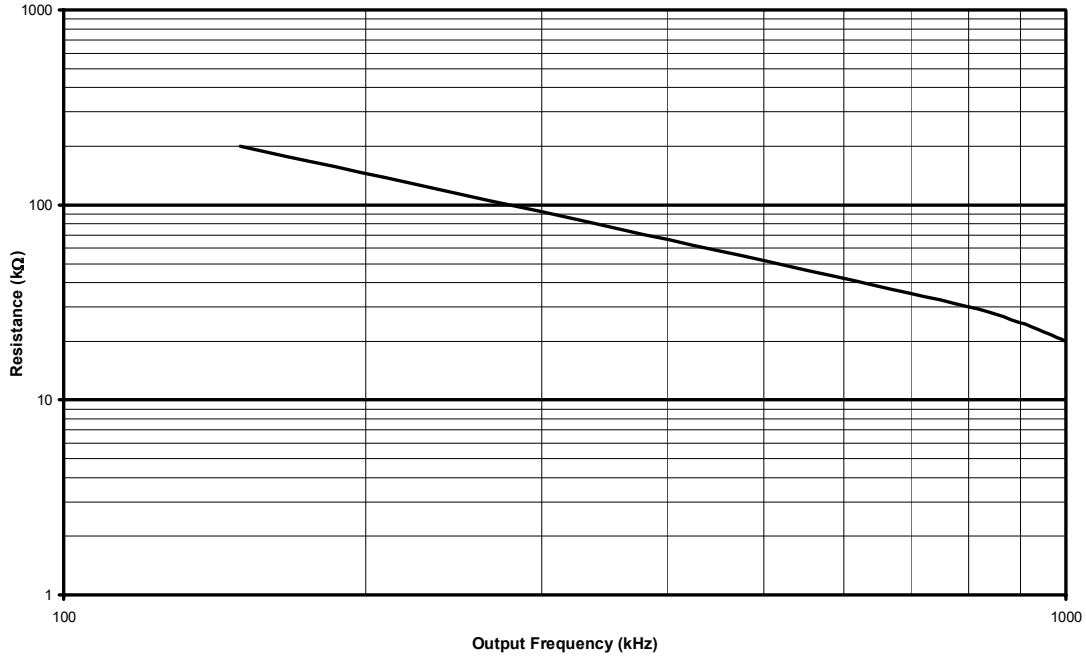
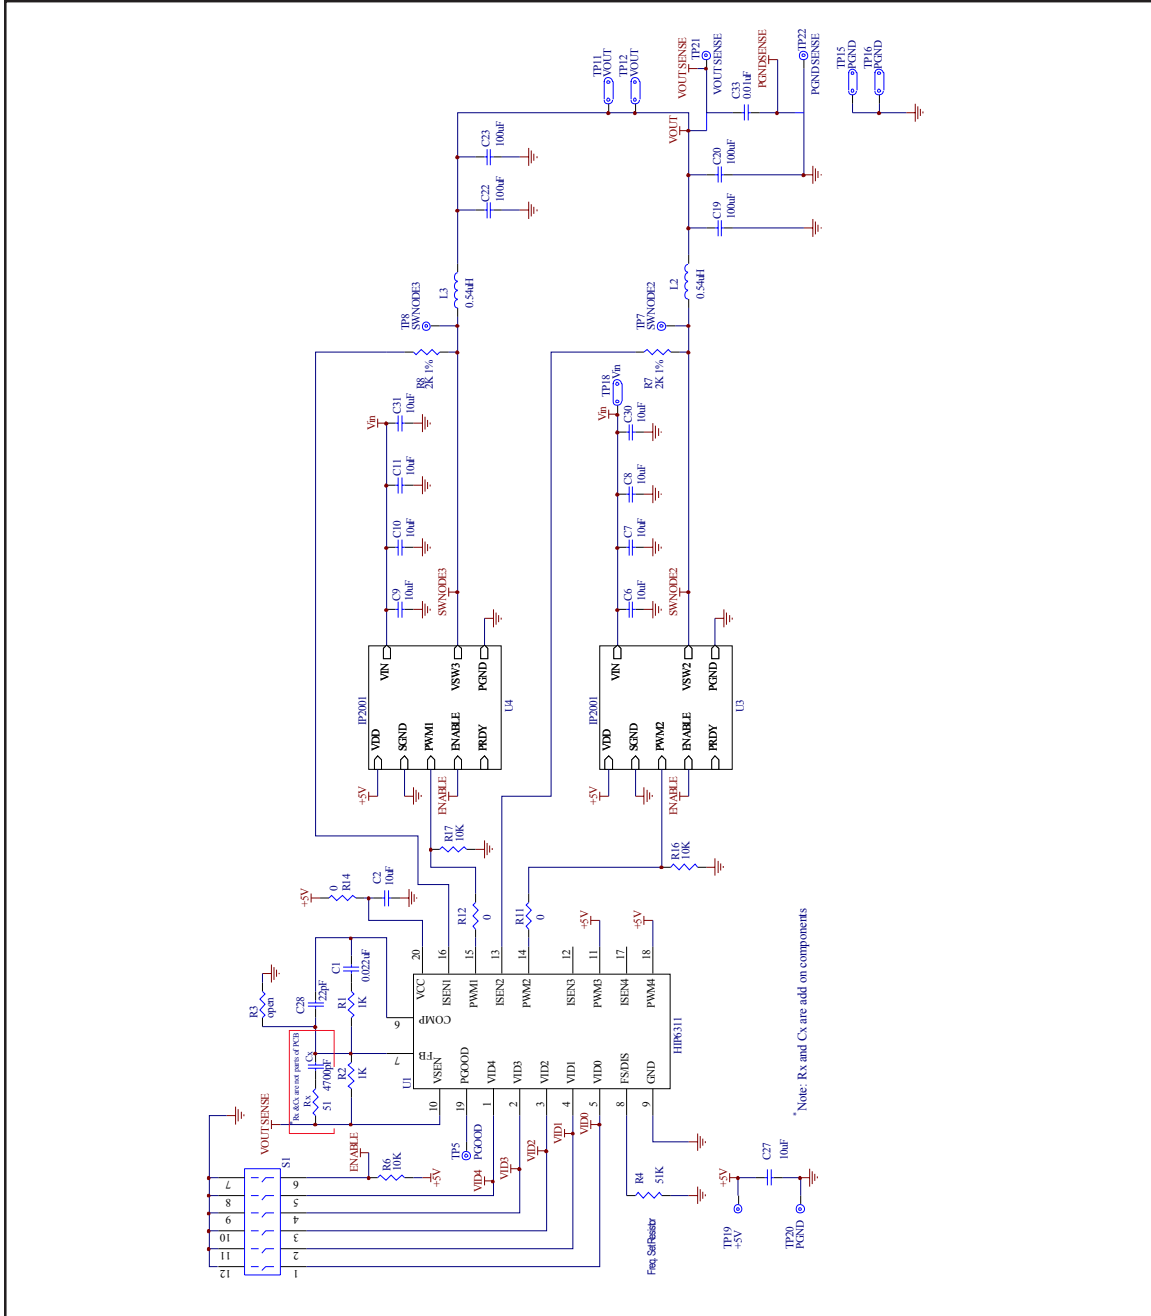

Figure 1 - R4 vs. Frequency (per Phase)
Fig. 3 - Reference Design Schematic
In this document, table 1 and figure 1 are provided to enable engineers to easily evaluate the iP2001 in a 2-phase configuration that is capable of providing up to 40A in a lab environment without airflow. Figures 3, 4, 5 and 6 and the complete bill of materials in table 2 are provided as a reference design to enable engineers to very quickly and easily design a 2-phase converter. In order to optimize this design to your specific requirements refer to the data sheet for the controller listed in the bill of materials. A variety of other controllers may also be used, but the design will require layout and control circuit modifications.
- The switching frequency per phase is set to 500kHz with the frequency set resistor R4. This creates an effective output frequency of 1MHz. The graph in figure 1 shows the relationship between R4 and the switching frequency per phase. This frequency may be adjusted by changing R4 according to this graph; however, extreme changes from the 500kHz set point may require redesigning the control loop and adjusting the values of input and output capacitors. Also, refer to the SOA graph in the iP2001 datasheet for maximum operating current at different frequencies.